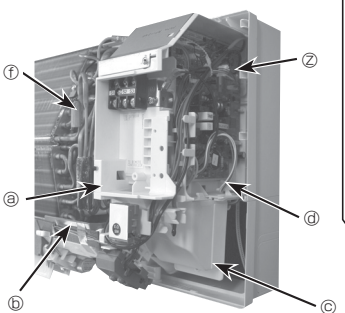
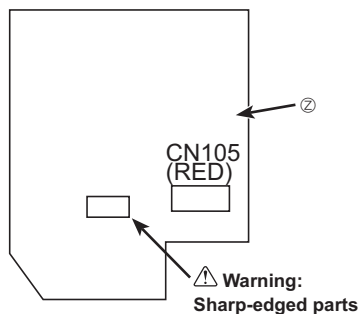

Fig. 6-5
Fig. 6-6
- ⑧ Remove the cable guide. (Fig. 6-5)
- ⑩ Remove the liquid pipe thermistor (TH2). (Fig. 6-5)
- ⑪ Tear off the tape partly of vane motor and loosen the cord. (Fig. 6-5)
- ⑫ Loosen the cord of the fan motor. (Fig. 6-5)
- ⑬ Pull out the electrical box toward you.
- ⑭ Connect the electrical cord of radio frequency interface securely to CN105 (RED) on indoor controller board. (Fig. 6-6)
- ⑮ Replace the removed parts.